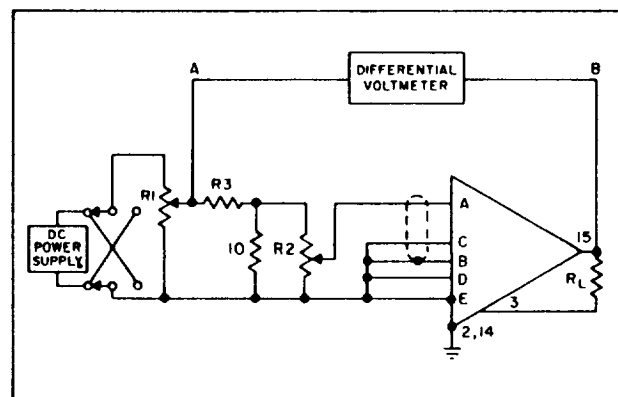

Figure 6-3. D-C Gain Linearity Test Circuit ( $G < 1$ )
- 1) Connect the amplifier as shown in Figure 6-3. Use a well regulated d-c power supply capable of supplying at least 2.5 volts. R1 and R2 should be 1000 ohm, multiturn potentiometers to provide adequate resolution. Select R3 to provide the necessary attenuation at the desired gain setting of the amplifier.